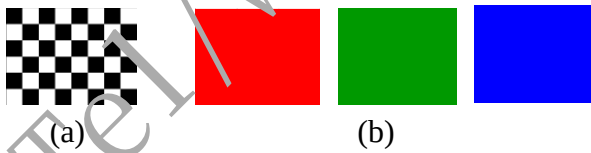
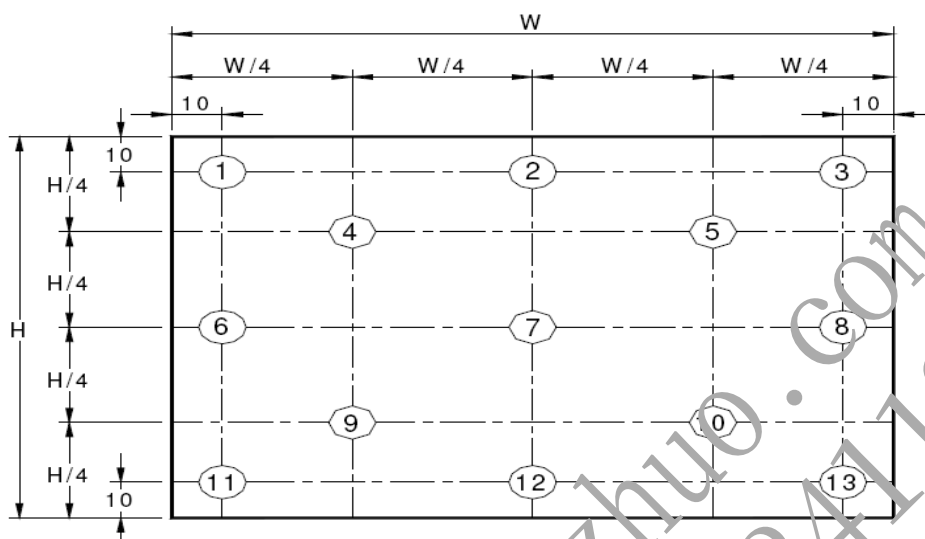

Figure 3. Power Measure Patterns
Figure 9. Uniformity Measurement Locations (13 points)
Notes : - Viewing angle is the angle at which the contrast ratio is greater than 10. The viewing angles are determined for the horizontal or 3, 9 o'clock direction and the vertical or 6, 12 o'clock direction with respect to the optical axis which is normal to the LCD surface (see Figure 7). - Contrast measurements shall be made at viewing angle of $\Theta = 0$ and at the center of the LCD surface. Luminance shall be measured with all pixels in the view field set first to white, then to the dark (black) state . (see Figure 7) Luminance Contrast Ratio (CR) is defined mathematically. $CR = \frac{\text{Luminance when displaying a white raster}}{\text{Luminance when displaying a black raster}}$ - Center Luminance of white is defined as luminance values of 5 point average across the LCD surface. Luminance shall be measured with all pixels in the view field set first to white. This measurement shall be taken at the locations shown in Figure 8 for a total of the measurements per display. - The White luminance uniformity on LCD surface is then expressed as : $\Delta Y = \text{Minimum Luminance of 5(or 13) points} / \text{Maximum Luminance of 5(or 13) points.}$(see Figure 8 and Figure 9). - The color chromaticity coordinates specified in Table 5 shall be calculated from the spectral data measured with all pixels first in red, green, blue and white. Measurements shall be made at the center of the panel. - The electro-optical response time measurements shall be made as Figure 10 by switching the “data” input signal ON and OFF. The times needed for the luminance to change from 10% to 90% is T_r, and 90% to 10% is T_r. - Cross-Talk of one area of the LCD surface by another shall be measured by comparing the luminance (YA) of a 25mm diameter area, with all display pixels set to a gray level, to the luminance (YB) of that same area when any adjacent area is driven dark. (See Figure 11).
The White luminance uniformity on LCD surface is then expressed as: $\Delta Y5$ = Minimum Luminance of five points / Maximum Luminance of five points (see Figure 3), $\Delta Y13$ = Minimum Luminance of 13 points / Maximum Luminance of 13 points (see Figure 9)